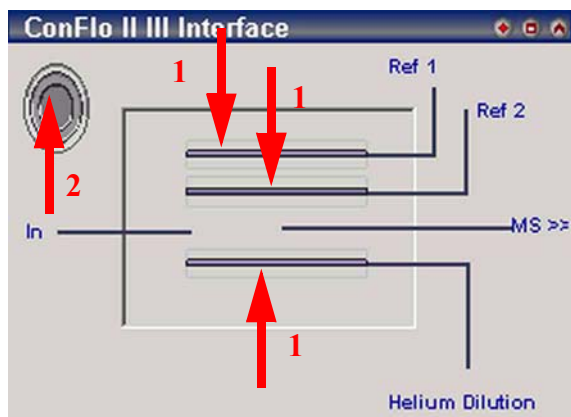

Figure 6-3. ConFlo II III Interface Window
The following window must appear at the **Accessories** toolbar. If it does not appear, check, if it is not visible (refer to Figure 6-3).
- Confirm by *Yes*, if you have already opened the Reference Port for CO₂ as shown in Figure 6-3.